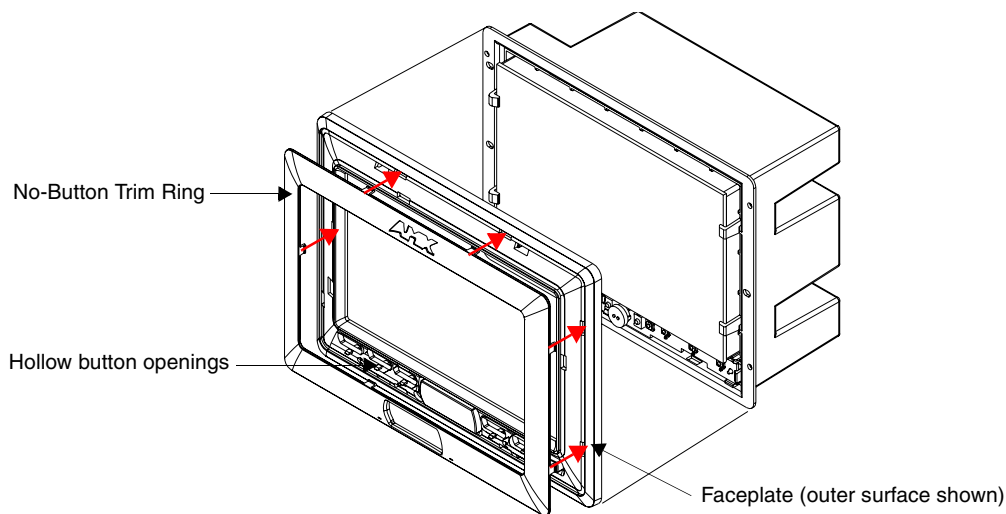

FIG. 33 Inserting the No-Button Trim Ring
8. Gently insert the Trim Ring latches into their corresponding openings on the outer surface of the internal Faceplate (FIG. 33).